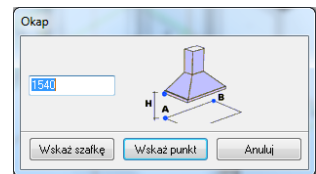

Fig. 253 – Hood dialog box
- Next place the mouse pointer in the design to select the first and last point on the cabinet between which the hood will be hung (Fig. 253);